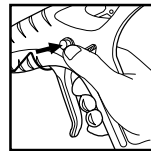

Fig.6.1
1. Push red **Ignition Button** until ignited. (Fig. 6.1)